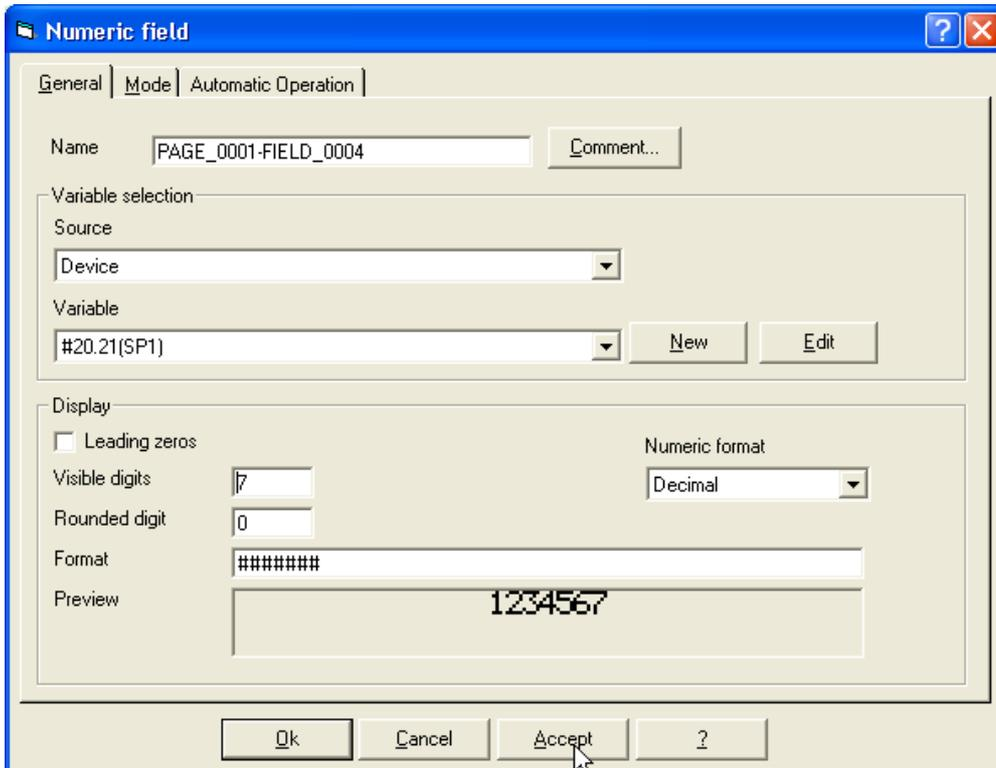

Fig. 23.
3.22 Proceed in the same way as per point 2.20. Make sure that the variable name matches with the description previously typed on that page as shown in Fig. 23. Then click *Accept* and *OK*.